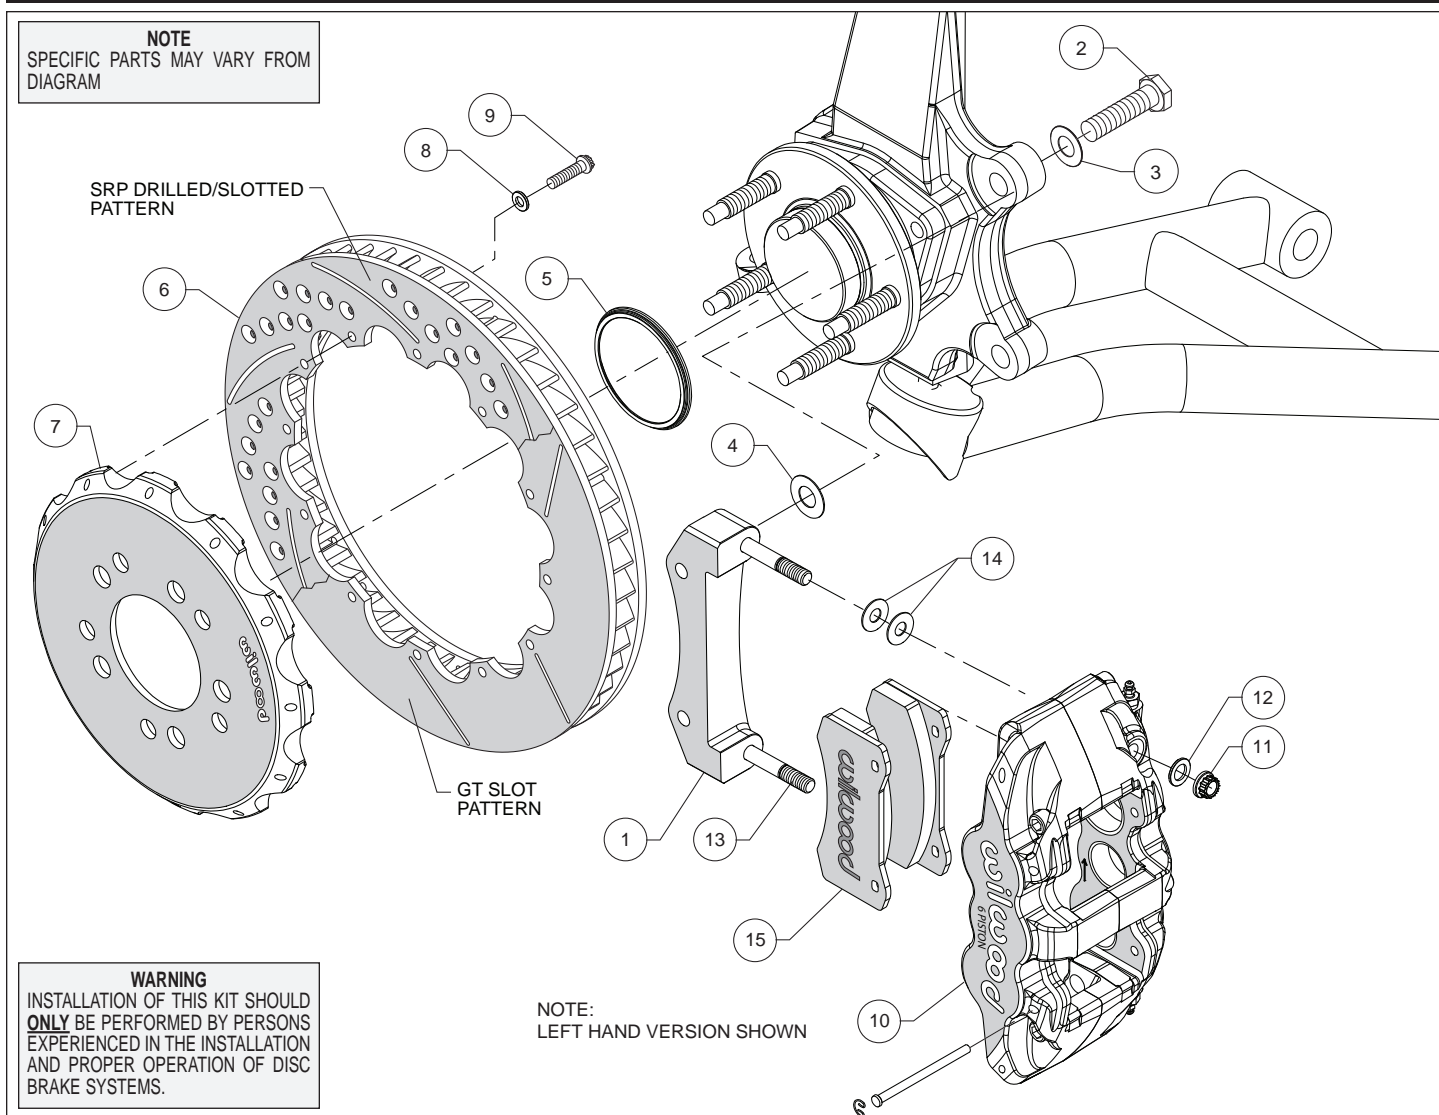
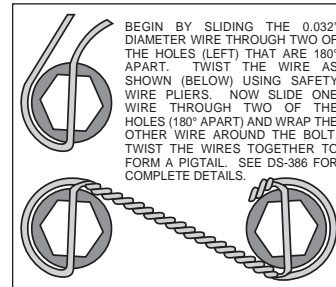

Figure 1. Typical Installation Configuration
Figure 3. Safety Wire Diagram
Assembly Instructions (numbers in parenthesis refer to the parts list and Figure 1 on the preceding pages):
- The caliper mount bracket (1) should initially be installed with clean, dry threads on the mounting bolts. Orient the bracket as shown in Figure 1, and install using bolts (2) and washers (3). Initially place one .033 thick shim (4) and spacer (5) on each bolt between the bracket and upright, Figure 1. Temporarily tighten the mounting bolts. **NOTE:** *The bracket must fit squarely against the mount bosses on the upright.* Inspect for interference from casting irregularities, machining ridges, burrs, etc. Later, after the caliper alignment has been checked, the mount bolts will be secured using red *Loctite*[®] 271.
- Orient the rotor (7) and the hat (8) as shown in Figure 1 and Photo 1. Attach rotor to hat using bolts (10) and washers (9). Using an alternating sequence, apply red *Loctite*[®] 271 to the threads, and torque to 155 **in-lbs**. For an added measure of security, the bolts may be safety wired using standard 0.032 inch diameter stainless steel safety wire as shown in Figure 3. Please refer to Wilwood's data sheet DS-386 for complete
- NOTE:** *This kit contains distinct right and left hand calipers that must be mounted in a specific direction, as described below.* Lubricate the caliper mounting studs (14) with lightweight oil. Initially place two .035" thick shims (16), and spacer (15) on each stud as shown in Figure 1 and Photo 3. Mount the caliper (11) onto the bracket (1) using lock nuts (12) and washers (13), Figure 1. Ensure that the caliper is mounted so that the largest pistons are at the rotor exit end of the caliper, in relation to the direction of rotor rotation. Temporarily tighten the lock nuts and view the rotor through the top opening of the caliper. The rotor should be centered in the caliper, Photo 4. If not, adjust by adding or subtracting shims (4) between the bracket and the upright. Always use the same amount of shims on each of the two mounting bolts. Once the caliper alignment is correct, remove the bracket mounting bolts (2) one at a time, apply red *Loctite*[®] 271 to the threads, and torque to 77 ft-lb.